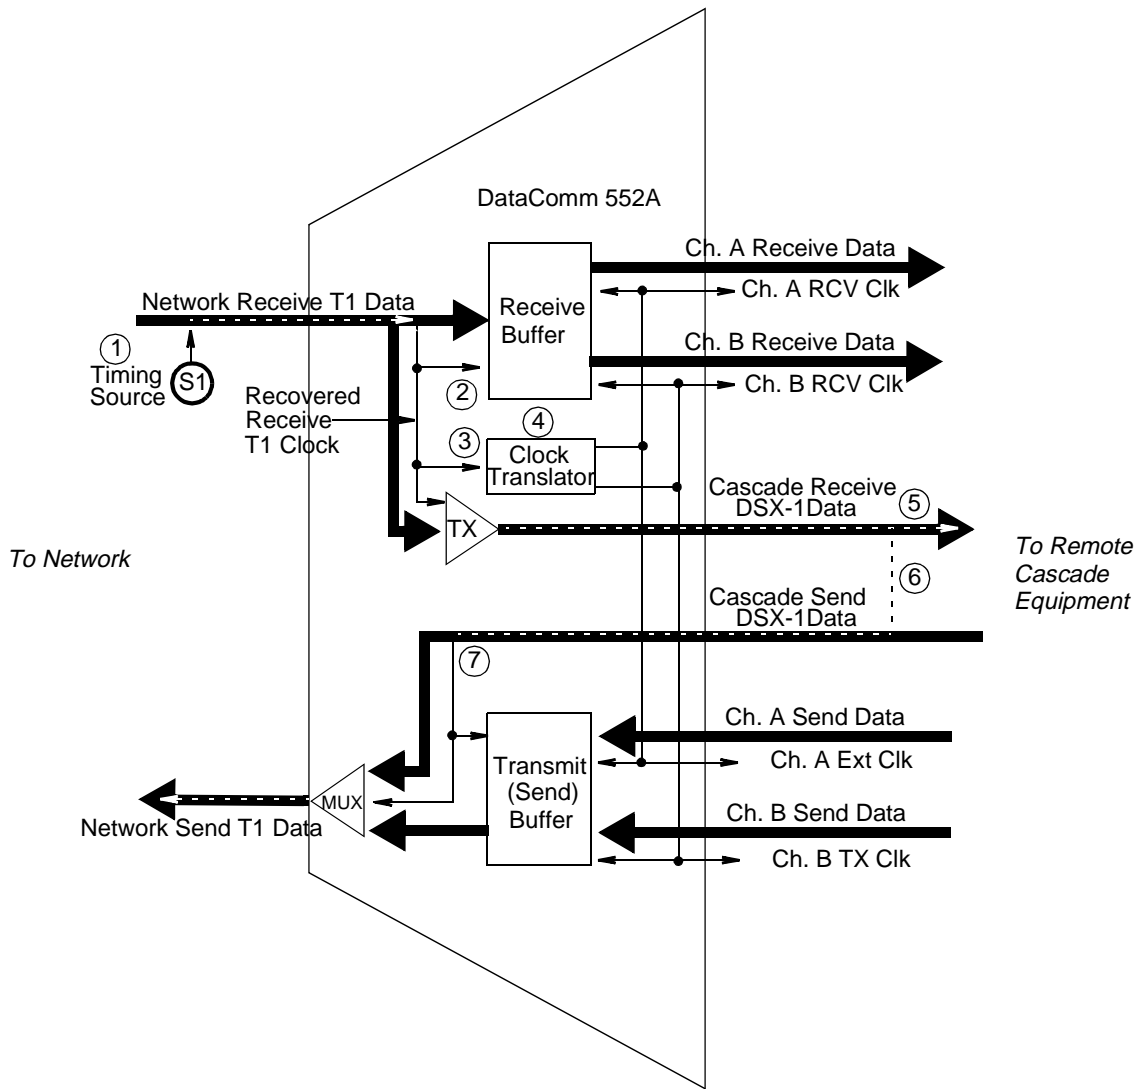

Figure B-10 Cascade Timing with a Network Timing Source
Cascade Timing with a Network Timing Source - As illustrated in Figure B-10, the network (or a device at the remote end) provides the timing source (1). The DSU recovers the receive T1 clock from the network receive T1 data and uses it to clock T1 data into the receive buffer (2) and into the cascade port transmitter (3). The DSU also translates (4) the receive T1 clock to provide the channel transmit and receive clock signals on the appropriate interface leads for each channel. The DSU extends the network receive T1 data stream to the remote equipment connected to the cascade port, which uses this as its timing reference (5) and loops it back to the DSU (6). The DSU recovers the receive T1 clock from the cascade send DSX-1 (Digital Service Cross-connect, Level 1) data and uses it to multiplex the DSX-1 data with channel data and to provide the send timing source for T1 data output from the transmit buffer (7) to the network.